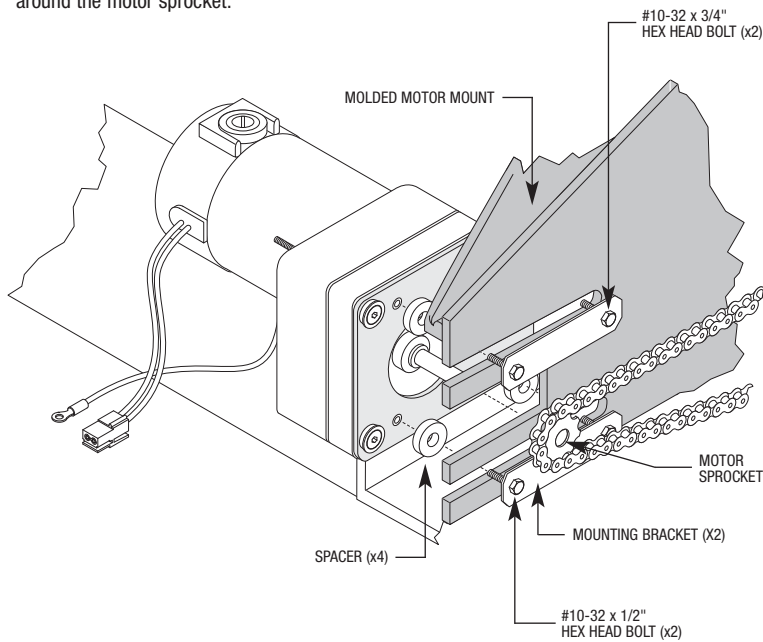

Figure 5
- 10) Pull the motor towards the bottom of the machine, and finger tighten the (4) Hex Head Bolts to attach the mounting brackets to the processor wall. Place your finger at the middle of the Drive Chain. When the chain has a 1/4" deflection measured at the center point between the Motor Sprocket and the Drive Sprocket (see **Figure 5**), then firmly tighten the (4) Hex Head Bolts.